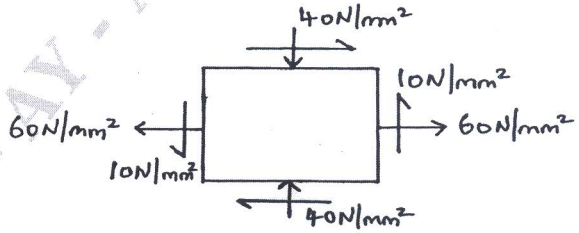

Fig Q3(b) (12 Marks)
- b. What is the purpose of Mohr’s circle? A plane element is subjected to stresses as shown in Fig Q3(b). Determine principal stresses, maximum shear stress and their planes sketch the planes.